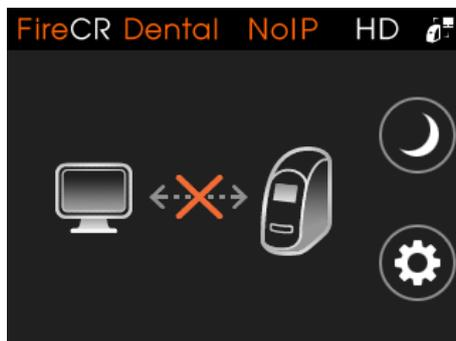

Figure 6.15 Not Connected
2. Turn on the scanner. Figure 6.15 shows the scanner LCD window. The LAN Connection icon is located at the upper right corner of the window.